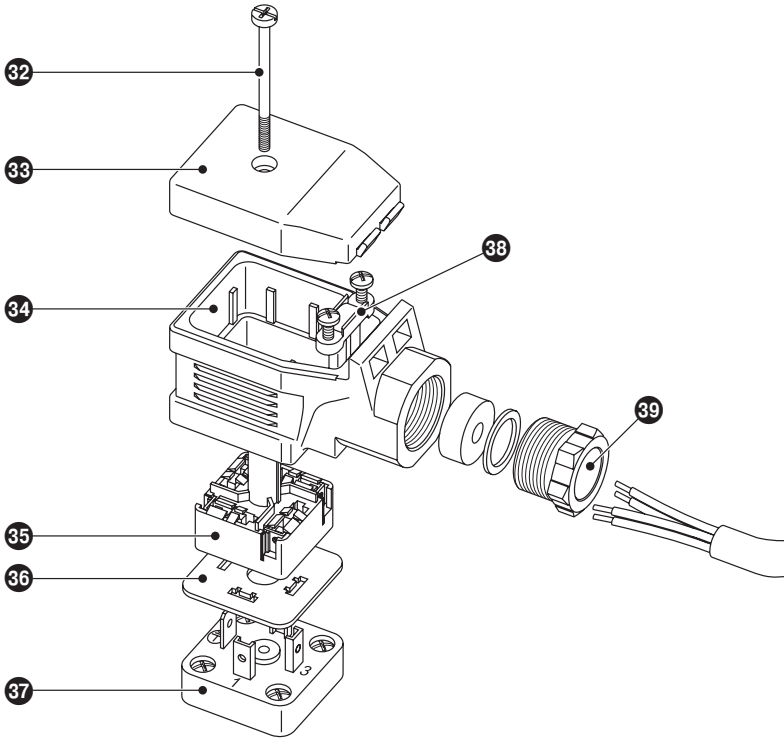

Fig. 23
1. Loosen screw 32. **Fig. 23**
1. Loosen screw **32**. **Fig. 23**